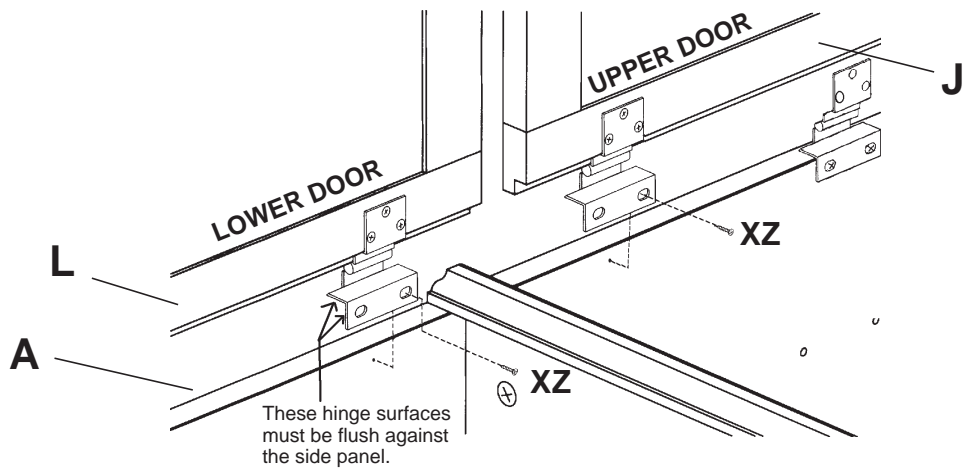

FIG. 19
19) Attach Lower Doors (L) to Side Panels (A & B) with #5x5/8" Brass Flat Head Screws (XZ). Upper hole in hinge should go over pre-punched hole in side panels. Attach the Upper Left Door (J) in the same manner. Attach the middle hinge to the upper left door with three #5x5/8" Brass Flat Head Screws (XZ). See FIGURE 19.